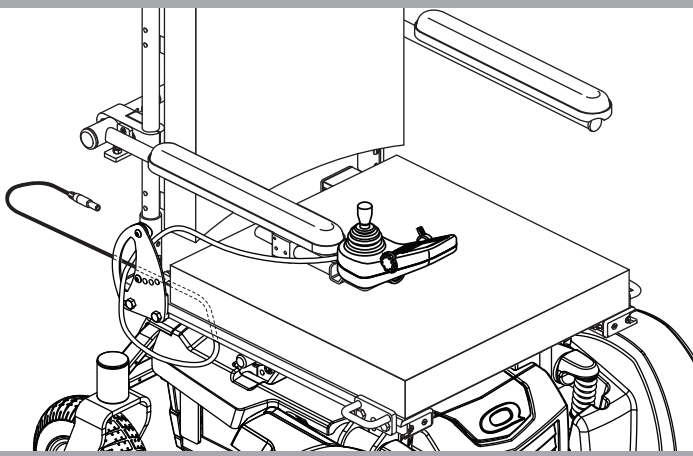

**Figure 4. Universal Mounting System and Contour Seat**
It may be necessary to install the seat either prior to initial operation or after transporting your power chair. Contour seats are attached to the power base with the Universal Mounting System (UMS). The UMS consists of universal parts that may be attached to the seat, regardless of seat width or seat depth. The two main components are aluminum extrusions mounted to the seat base. These extrusions attach to a pair of trapeze bars that are mounted to the power base. See figure 4.
1. Tilt the seat back and slide the rear extrusion onto the rear trapeze bar. **See figure 4.**
4. Flip up the seat latch safety. **See figure 4.**